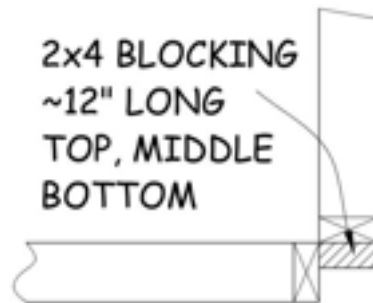

Figure 6-5. Basement Exterior Wall Corner.
2. Start by laying out the exterior walls. Where exterior walls meet, abut the corners of the end studs, and nail or screw blocking to the end stud of one wall (see Figure 6-5). Plumb both walls, and nail the non-blocked stud into the blocking to secure the wall.